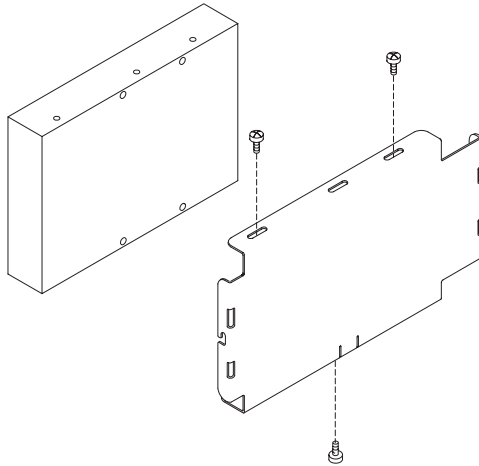

Figure 124. Removing the HDD from its bracket
7. If you are replacing the HDD, remove the three screws holding the HDD to the mounting bracket, as shown in Figure 124.